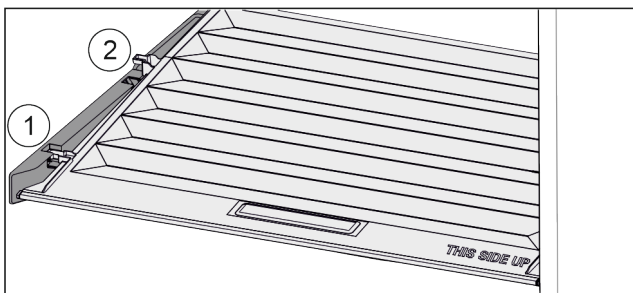

Fig. 83
- ▶ Pull the lid up at the front to the opening in the retaining parts *Fig. 83 (1)*.
- ▶ Lift from the back and pull it up and out *Fig. 83 (2)*.